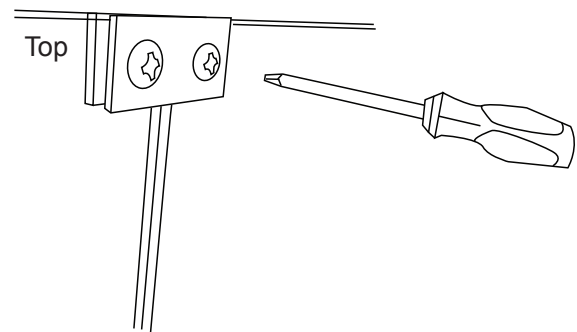

Fig. 2 Securing two long glass panels into the straight bracket.
STEP 1: Begin by securing two long glass panels inside a straight bracket. Screw heads should be on the inside of the assembly and ensure the “CAUTION-HOT” sign is showing on at least one panel, facing outward. Each glass panel should slide all the way into the bracket and top edge should be flush with edge of glass. See Fig. 2.